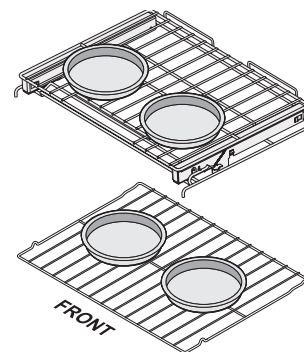

Figure 8: Pan spacing suggestion
- When baking using two oven racks, position cookware as shown in Figure 8. Allow at least 2 inches (5 cm) of space between cookware for proper air circulation.